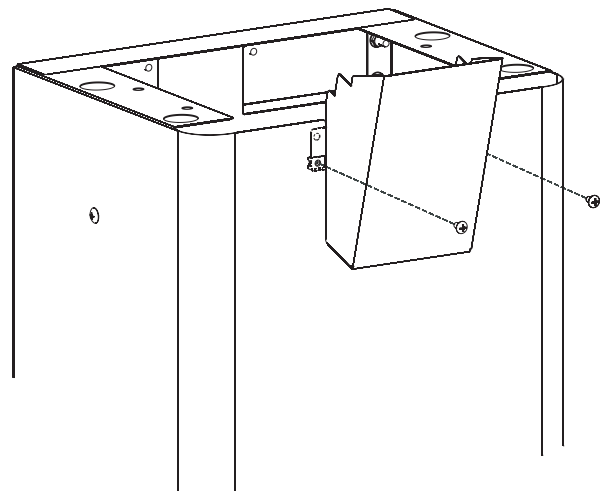

FIGURE 14
Slide the mounting tabs on the control housing (7) behind the opening on cart. Allow the control housing to rest at bottom of opening on cart. Figure 14.
For "P" series head installation, align the holes in the front of cart with the two upper nuts on the control housing (with the mounting tabs positioned inside cart) and attach with the two 10-24 x 3/8 phillips head screws. Figure 14.
For "T" series head installation, align the holes in the front of cart with the two lower nuts on the control housing (with the mounting tabs positioned inside cart) and attach with the two 10-24 x 3/8 phillips head screws. Figure 14.